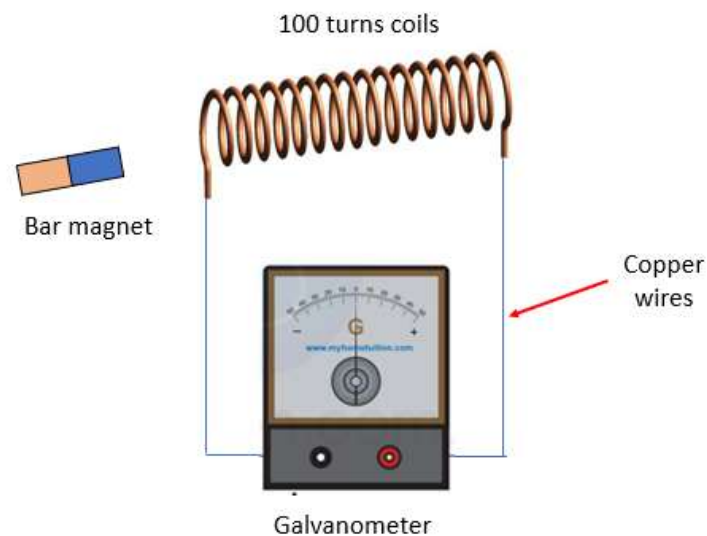

Figure 3
1. Set up as shown in Figure 3.